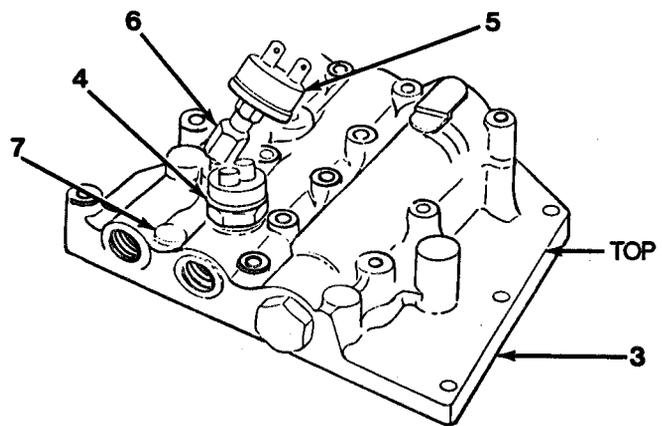

Figure 11-2
2. Remove neutral safety switch (4), reverse warning switch (5) and elbow (6, Figure 11-2).
3. Remove pipe plugs (7).